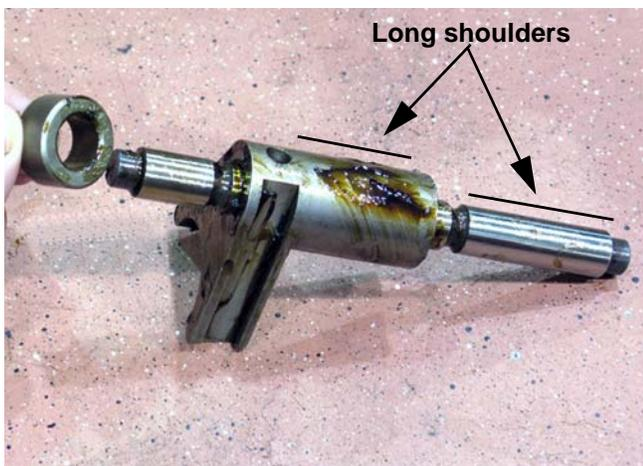

Figure 5.52
6. Orientation for reassembly: See Figure 5.52.